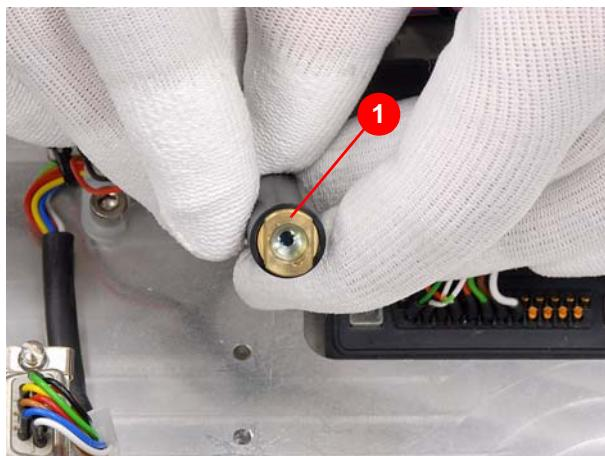

Figure 7.144 Adjustment of the alignment laser
11. Using the brass screw (1) (Figure 7.144), align the red laser beam to a white surface that is about 1.5 m to 2 m and turn the brass screw until the minimum diameter of the laser beam is reached.